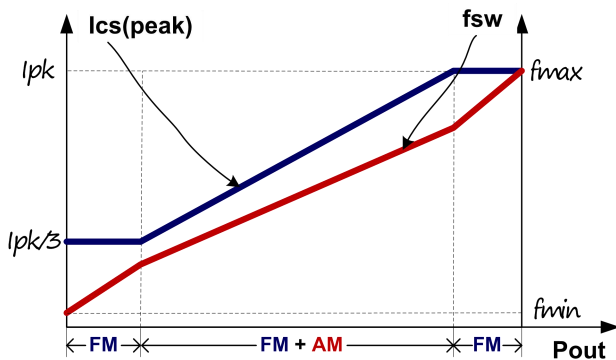

Fig.4
To meet the tight requirement of averaged system efficiency and no load power consumption, a hybrid of frequency modulation (FM) and amplitude modulation (AM) is adopted in DP2525A which is shown in the Fig 4.